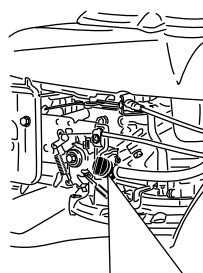

Figure 23
2. Turn the fuel valve lever to the On position (Figure 23).